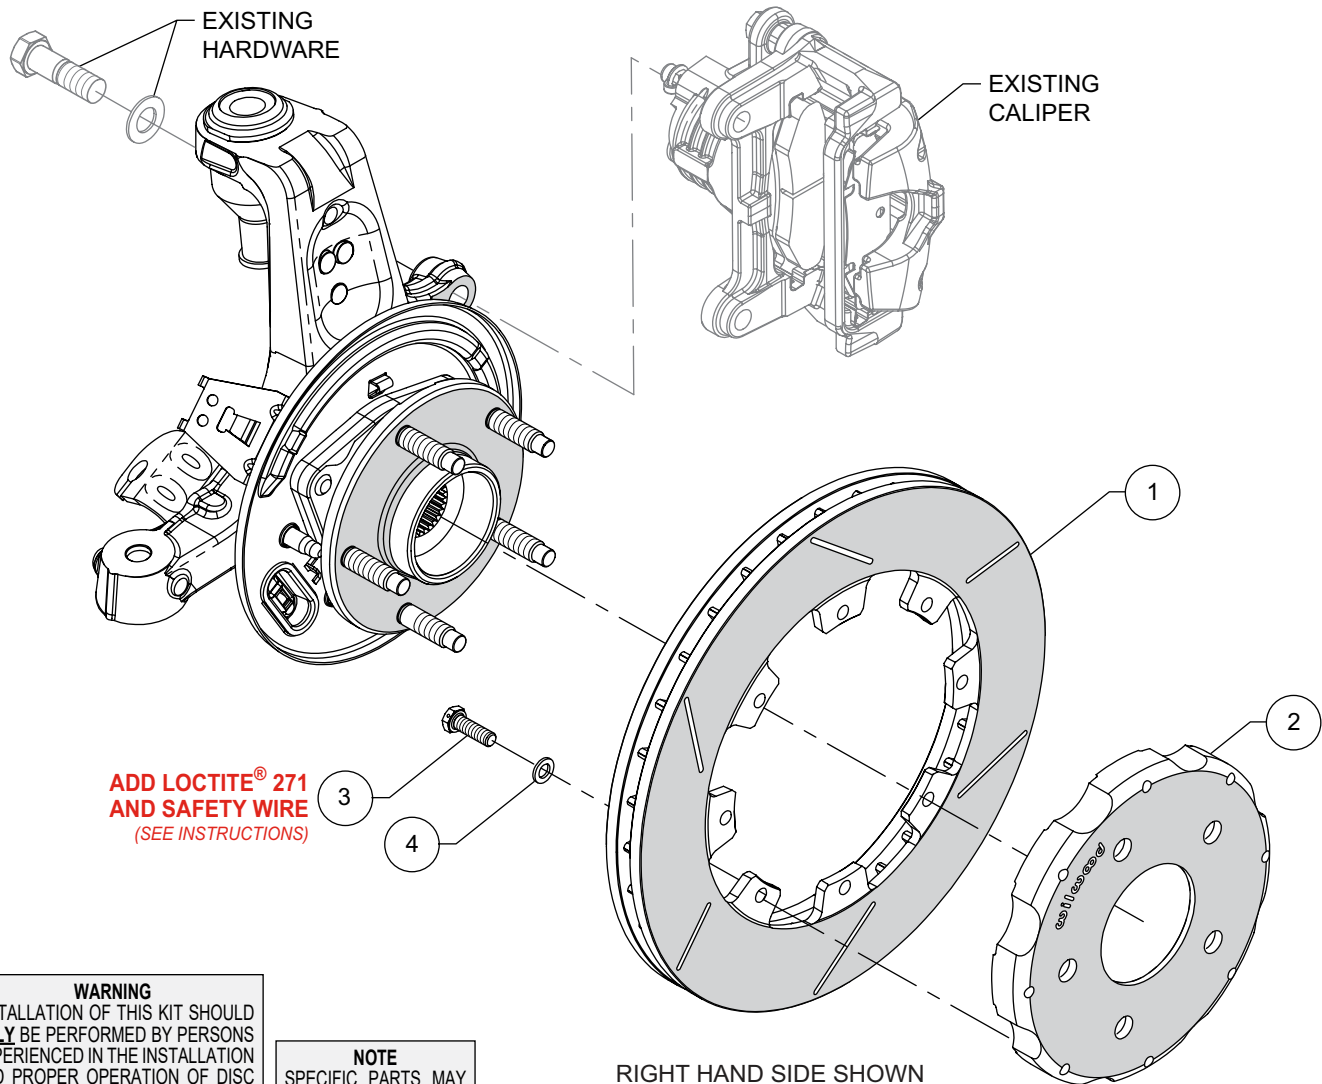
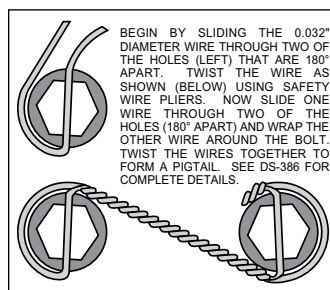

Figure 1. Typical Installation Configuration
Figure 2. Safety Wire Diagram
NOTE: Numbers in parenthesis refer to the parts list and Figure 1 on the preceding pages.
•Orient the rotor (1) and the hat (2) as shown in Figure 1, Photo 1. Attach rotor to hat using bolts (3) and washers (4). Using an alternating sequence, apply red *Loctite*® 271 to the threads, and torque to 25 ft-lbs. Safety wire bolts using standard 0.032 inch diameter stainless steel safety wire as shown in Figure 2. Please refer to Wilwood's data sheet DS-386 (available at www.wilwood.com/Pdf/DataSheets/ds386.pdf) for complete safety wire installation instructions.